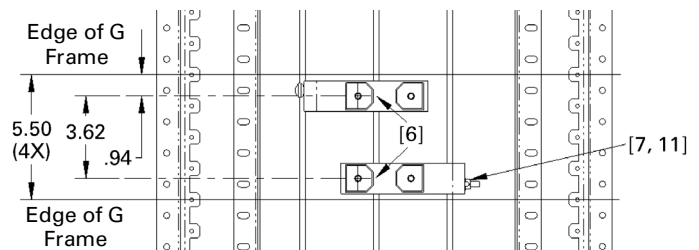

Figure 15. Installing straps on phases A and C.
**5d. Install straps on phases A and C.** Place the G frame straps [5] over the carriage bolts and antiturn clips, as shown in Figures 15 and 16. Place conical washers [7] on the bolts and secure with nuts [11]. Leave the connections finger tight.